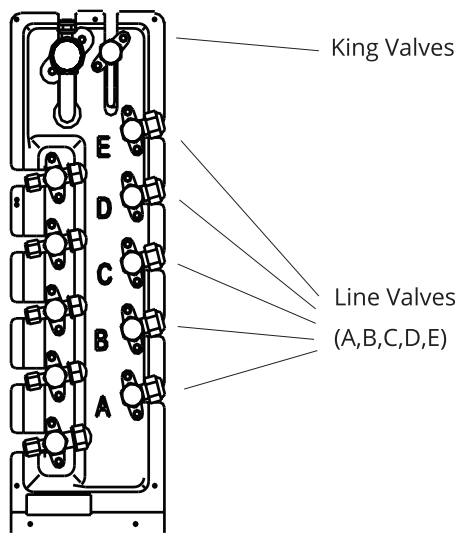

Fig 9.1
1. **Open King valves** (see Fig. 9.1) Open both King Valves fully until you hit the stopper. Do not force.